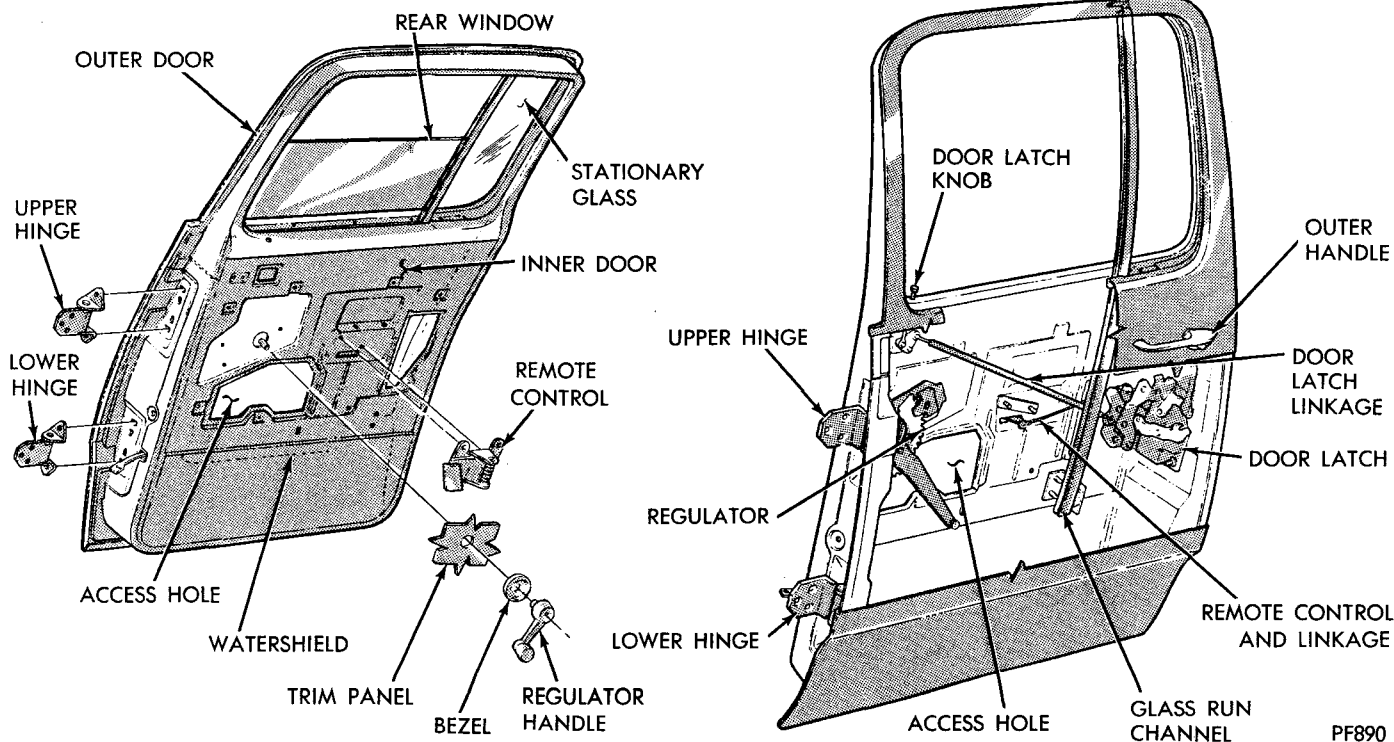

Fig. 1—Rear Door Assembly—Crew Cab
Figure (1) is meant to serve as an index or component guide. It is meant to show component name and location. Service procedures on individual components can be found in this section also, use (Fig. 1) as a tool to identify the component and its location in or on the door assembly.